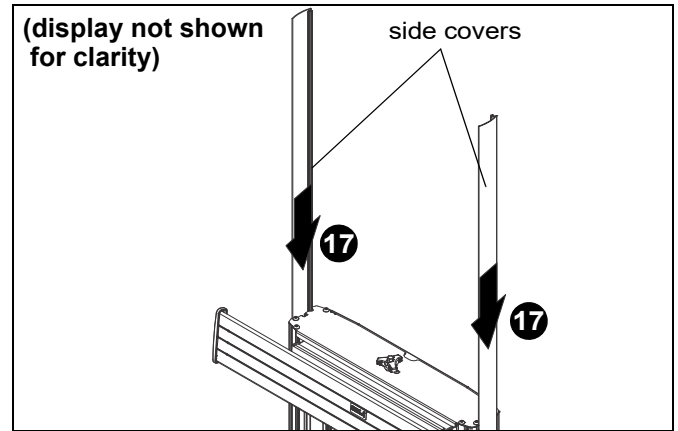

Figure 12
- 17. Reinstall side covers into each side of cart/stand. (See Figure 12)